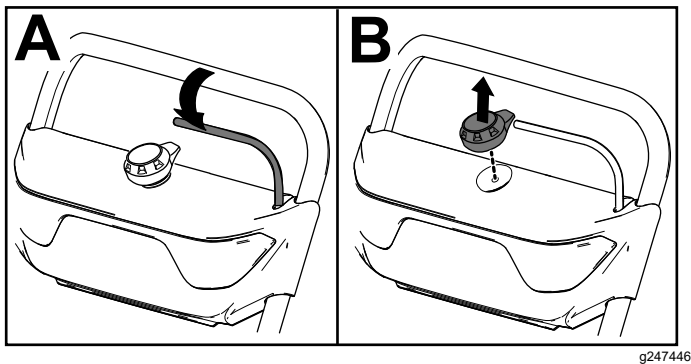

Figure 14
1. Release the bail (A of Figure 14).
2. Remove the electric-start button from the electric starter (B of Figure 14).